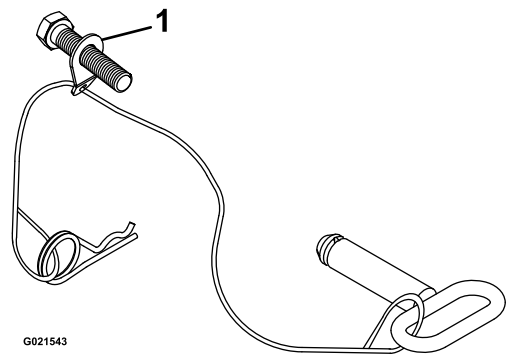

Figure 5
**Note:** Make sure the bent tab in the washer points toward the head of the bolt as shown Figure 5.